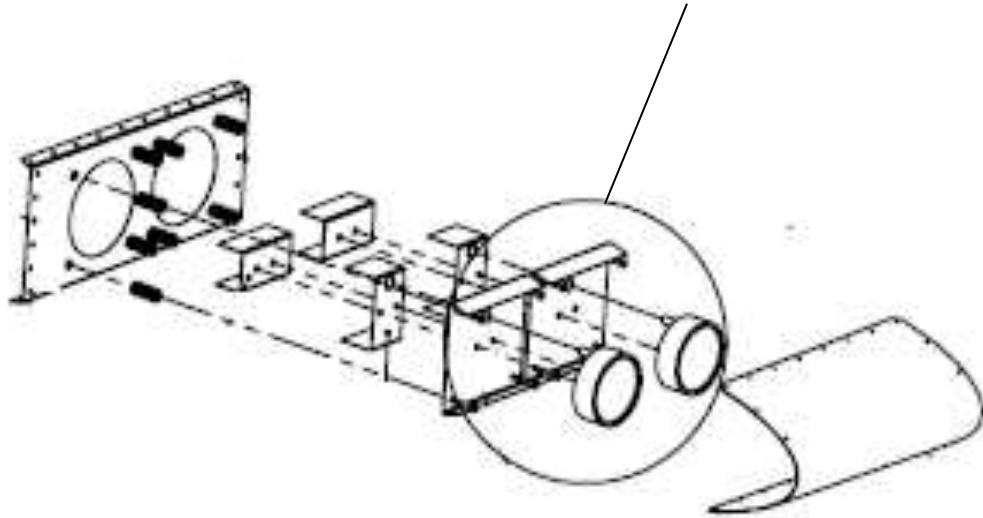

Figure 74 : Landing and taxi light installation.
- Observe correct orientation of the angled plates. Also refer to Figure 74.
- Tie wrap the wires together and to the angled plates (through hole (5)) with a plastic tubular standoff / spacer (6) to distance the wires from the angled plate's edge.